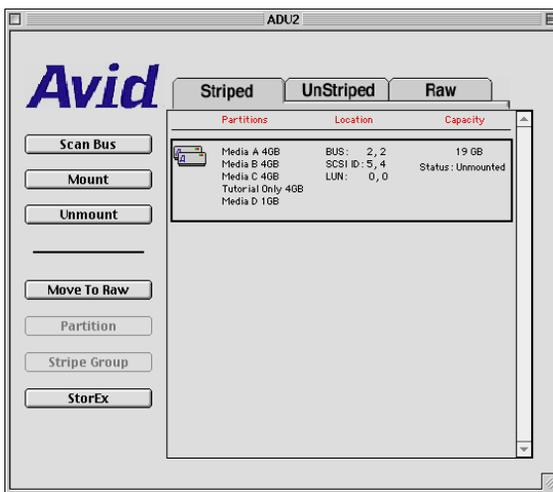

Figure 27 ADU2 Window - (Unmount)
7. Click Unmount in the ADU2 window (see Figure 27). All the partitions on the unstriped drive group or the striped group are removed from the desktop. The Status message in the Capacity column changes from Mounted to Unmounted.